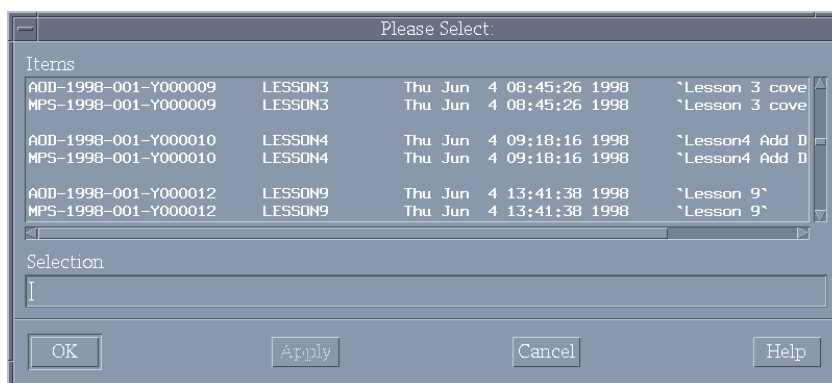

Fig. 16 – Sample list of final compositions
- a. From the main menu, click on *File*, then *Open Final Composition* to view the list of available final compositions (Fig. 16). This must be done even if the composition is still active in MMC (see note below).